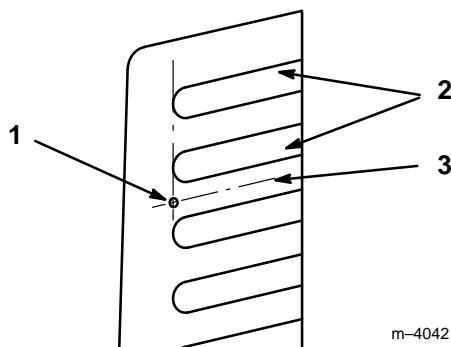

Figure 3
5. Place a straight edge aligned across the ends of the depressed areas (Fig. 3) on the tower. Scribe a short mark, in line with the ends, at the center of the third rib from the top on both sides. With the straight edge aligned through the center of the third rib, scribe a short mark across the vertical mark. Drill a 13/32" diameter hole on each side of the tower at these locations.